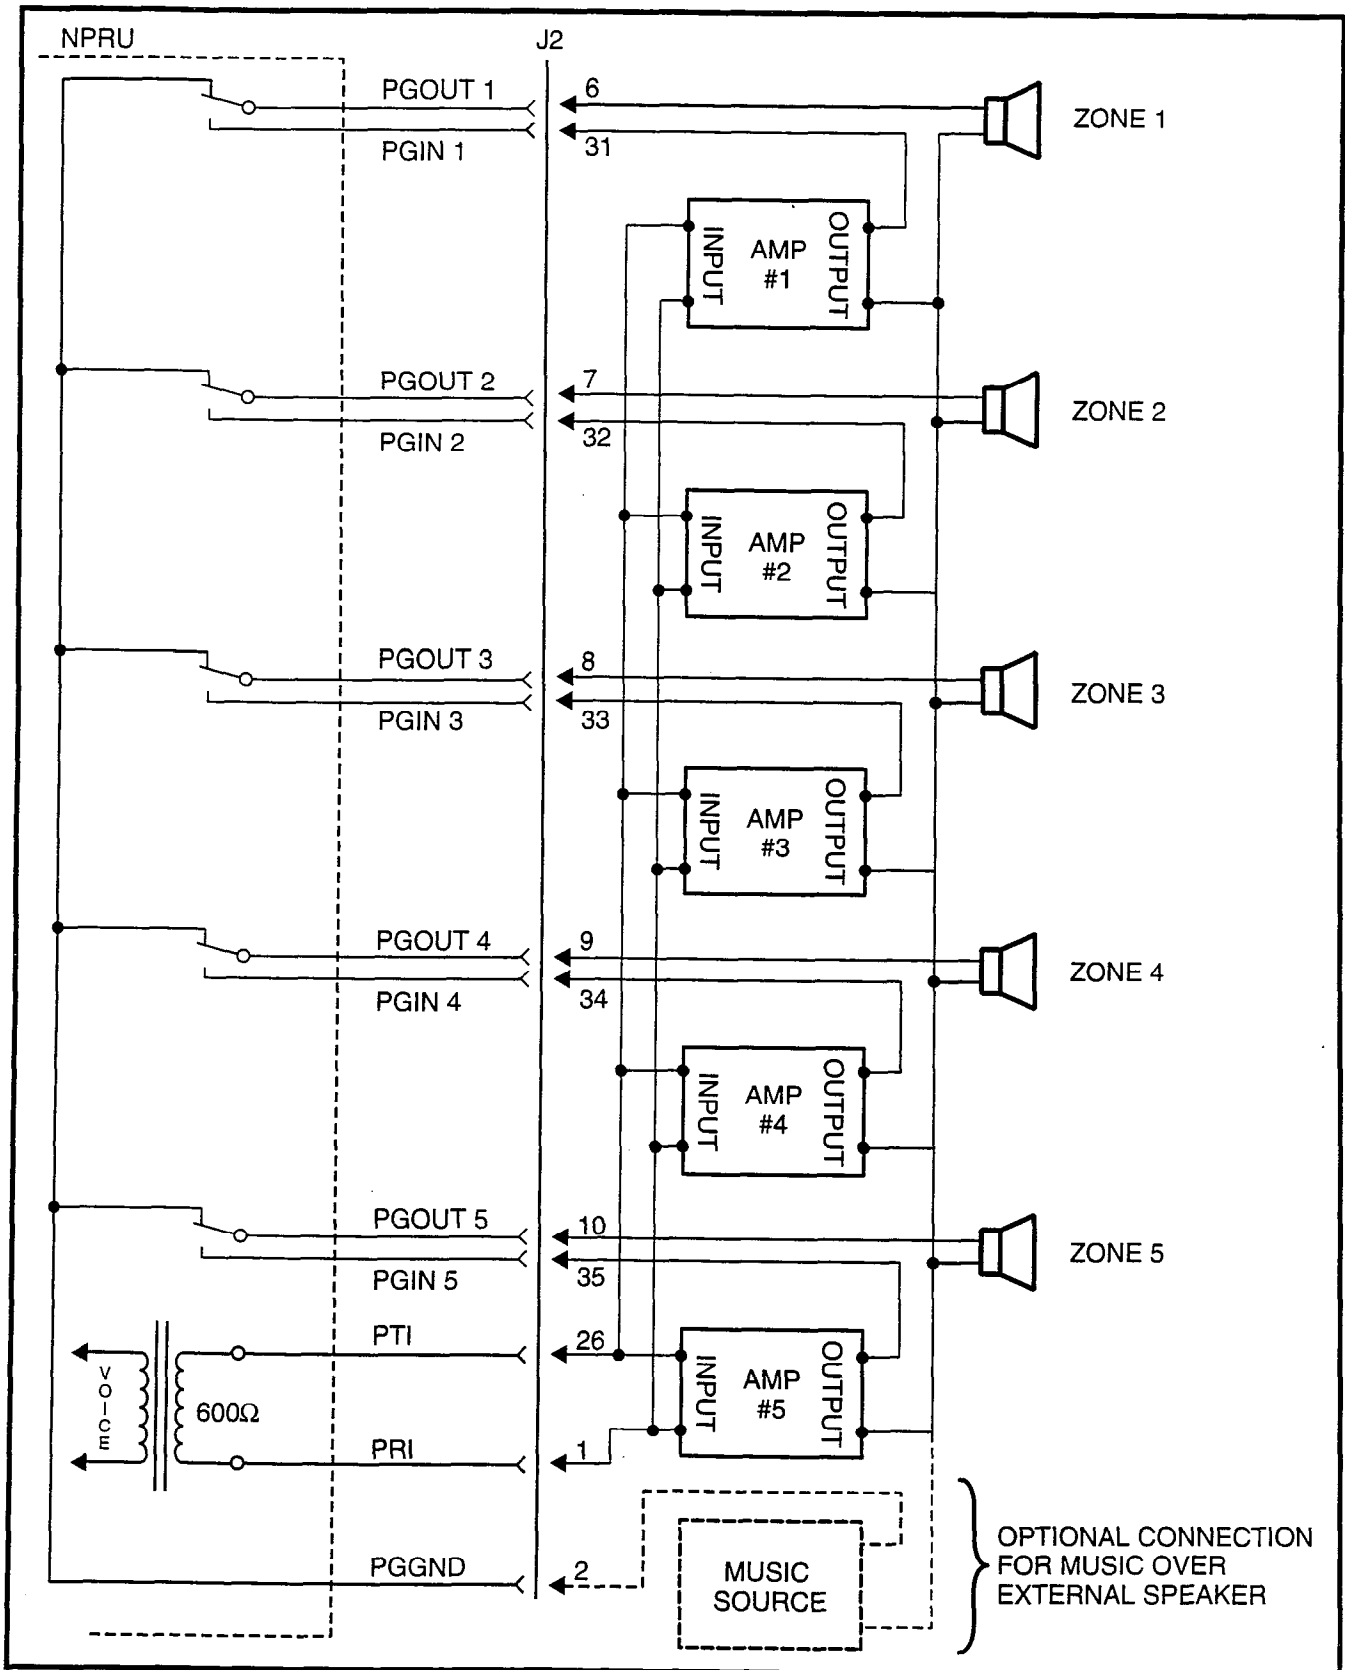

FIGURE 4-71—PAGING WITH MULTIPLE AMPLIFIERS
9.34 If the power loads of the different zones are such that a single amplifier is not suitable, multiple amplifiers (up to one for each zone) can be connected as shown in Figure 4-71.